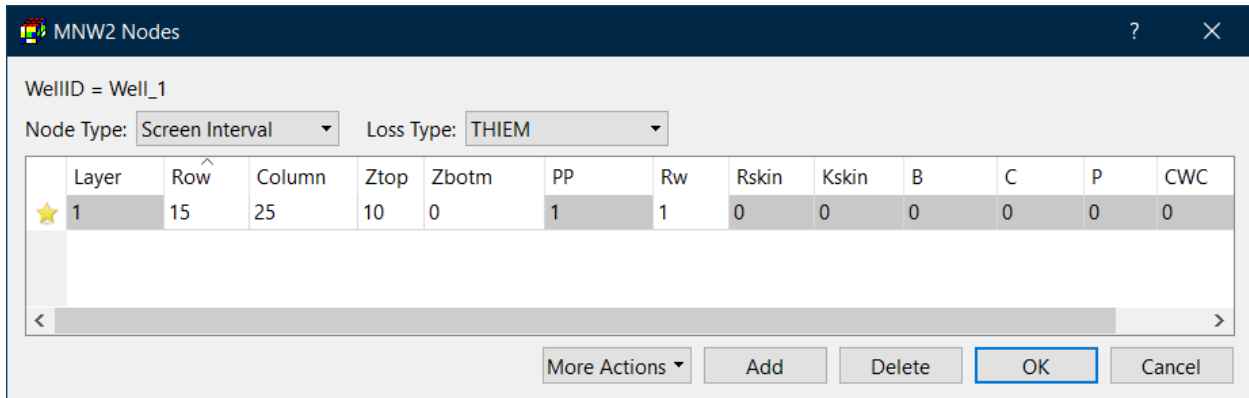

Figure 8. The MNW2 Nodes dialog box
4. To assign nodes to a well, double-click on the respective cell of the Nodes column to open the MNW2 Nodes dialog box (Figure 8), and do the following steps.
- Click Add to add a row to the table and enter the values as given in Figure 8. We assume that the well is screened over all layers, and therefore 10 and 0 are assigned to Ztop and Zbotm (top and bottom of the screen interval), respectively. Rw is set to an arbitrary value of 1. A larger value of Rw will decrease the linear aquifer loss coefficient used by the THIEM loss type.